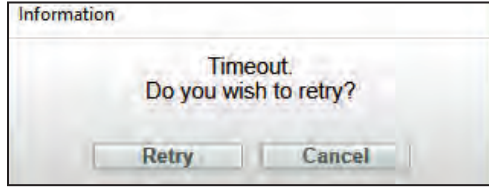
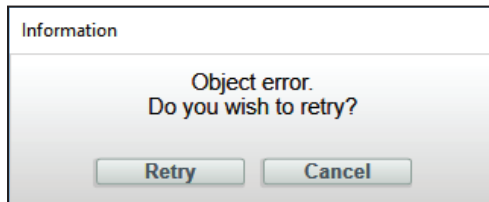

Figure 156. Timeout message.
Figure 157. Object error message.
When attempting to connect a TripSaver II recloser using the service center configuration software, the connection process will timeout if it is unable to create or maintain a wireless connection. See Figure 156. This is generally caused by low signal strength, which can be a result of distance, orientation of the product, interference from other signal sources, or a combination of these. A USB transceiver is available with an enhanced external antenna to improve signal strength.
**STEP 3.** Reattempt connecting to the TripSaver II recloser. If the Timeout message (see Figure 156) persists or an Object Error message (see Figure 157) appears, (this may be noticeable more often when connection to consecutive TripSaver II reclosers using the same computer), reset the USB transceiver.